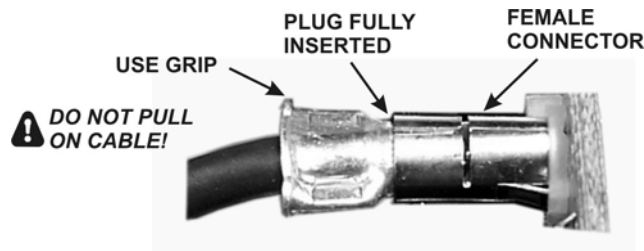

Figure 6. TMP Cable Connectors.
3. Unplug the coaxial cables leading to the K144XV module and set the module aside. The coaxial cables have friction-fit TMP connectors that simply pull out of the sockets (see Figure 6 on pg 10). Pull on the metal connector grips. Do not pull on the coaxial cable. If needed use your needle-nose pliers to grasp the metal grips on the connectors.
☐ Temporarily remove the coaxial cables at J2 and (if present) J1 on the KREF3 board. Handle the connectors by the grip (see Figure 6). Do not pull on the black coaxial cable.
Plug the TMP connector on the end of the coaxial cable you installed earlier into the connector on the KREF3 board that extends through the front panel shield. Handle the connector by the grip using your needle-nose pliers. Be sure the connector is fully seated (see Figure 6 on pg 10).